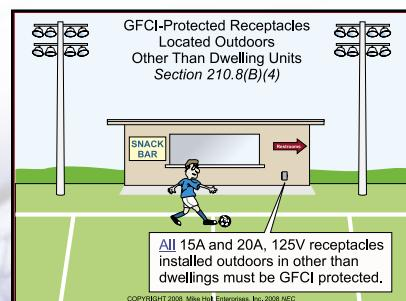

Figure 210-10
(4) Outdoors - All 15A and 20A, 125V receptacles installed outdoors shall be GFCI-protected. (See *Figure 210-10*)